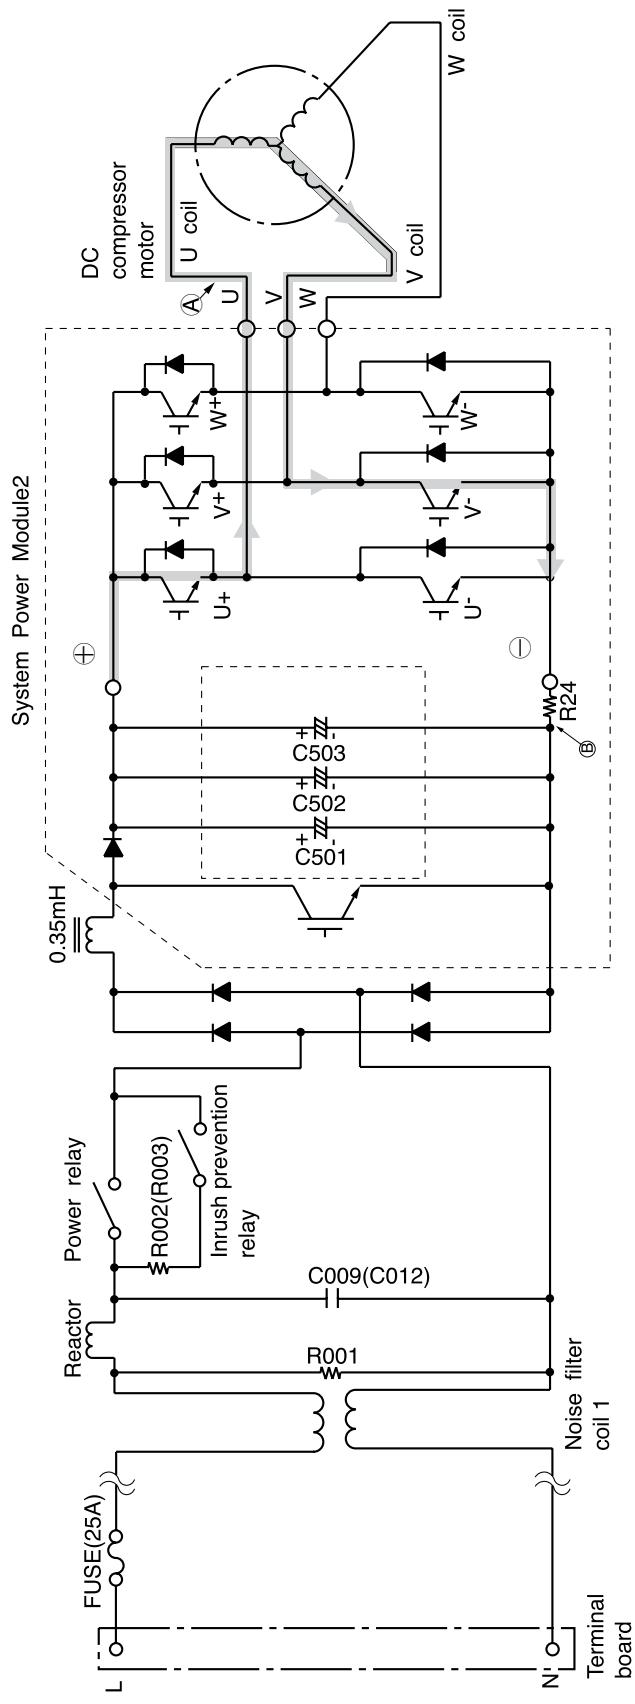

Fig. 3-1 Power module circuit ( $U^+$  is ON,  $V^-$  is ON)
- RAM-70QH4 and RAM-80QH4 have two power module circuits as shown in Fig. 3-1 because of providing for two cycles and two compressors style.